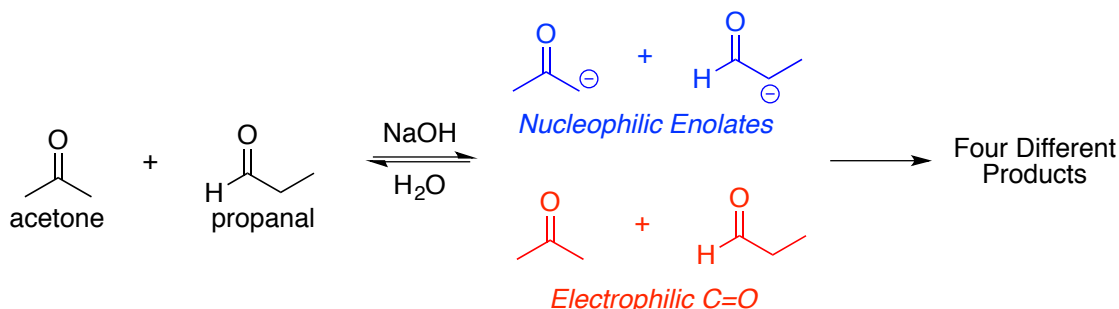

Figure 5. Limitation of the Crossed Aldol Condensation
The aldol condensation is not limited to aldehydes. Ketones may also be used. In fact, it is possible to use two different carbonyl compounds to form a crossed aldol product. One limitation of the crossed aldol reaction is the fact that multiple products can form due to the presence of multiple different α -hydrogen. For example, as shown in figure 5, if a mixture of acetone and propanal is treated with base, two different nucleophilic enolates can form due to the presence of α -hydrogen on both acetone and propanal. Each of these nucleophilic enolates can react with both acetone and propanal to provide four different products. These products would be very difficult to separate making such a reaction synthetically useless.
- 2) Figure 5 describes the formation of 4 different aldol condensation products. Draw the structure for each of these products.